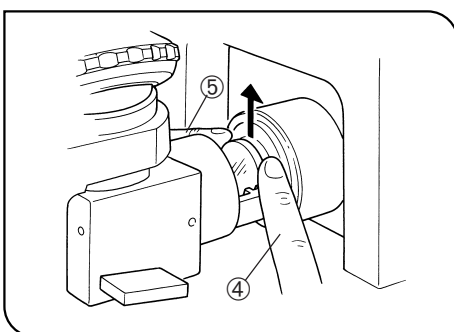

Fig. 23
1. While holding the upper part of filter with your right index finger ④ and left index finger ⑤, pick up the filter to remove it. (Fig. 23)